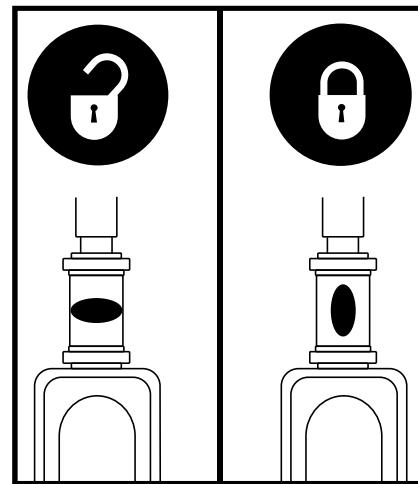

Figure 18. Tiller Lock Knob
1. Remove the key from the key switch and then lock the tiller in the straight ahead position by pushing the tiller lock knob in and turning it clockwise 90°. See **figure 18**. The front wheel must face forward in order to lock the tiller.
6. Unlock the tiller by turning the tiller lock knob 90° counterclockwise. See figure 18.